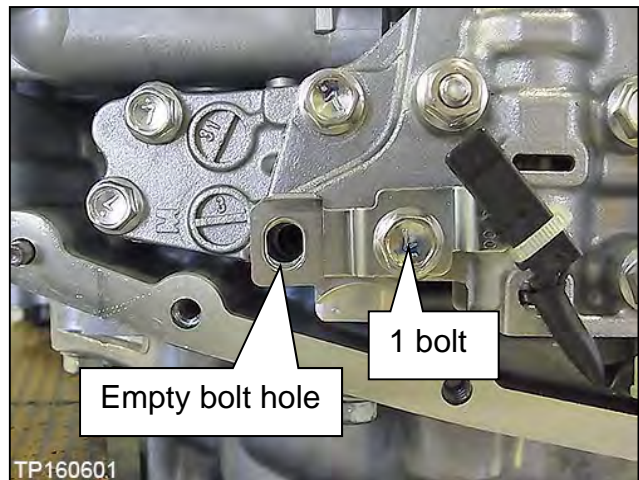

Figure 160
120. Install the CVT fluid temperature sensor bracket to the control valve with one (1) bolt (Figure 160).